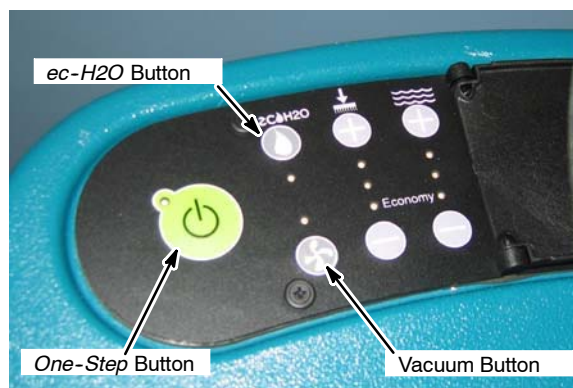

Fig. 42
1. Press and hold down the *ec-H2O* button and Vacuum button (Figure 42).
2. Turn the key switch to the ON (I) position.